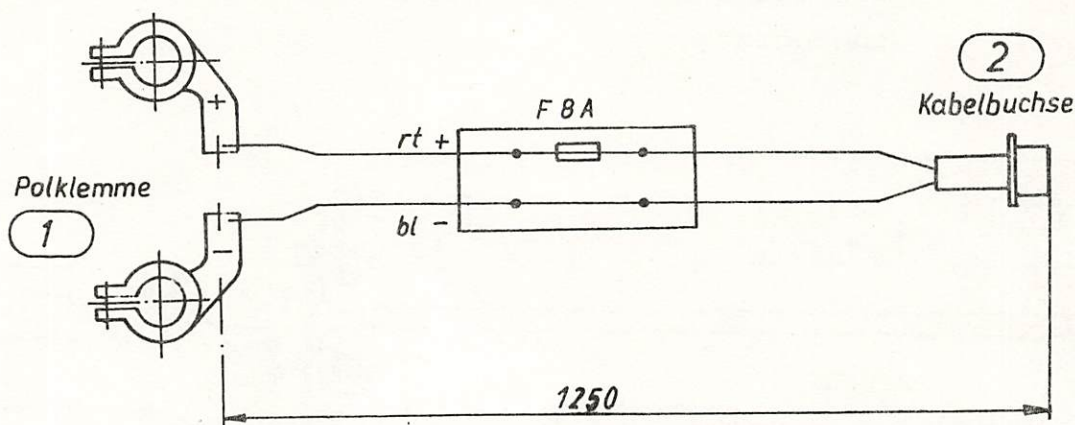

Figure 5
The connection is established with the battery connection cable 1414.006-01001 (cf. Figure 5) contained in the accessories to the battery connection plug $\text{—}|$ (26). If a longer feeder line is required, the cable is to be replaced after the fuse link (cross-section $\geq 2.5 \text{ mm}^2 \text{ Cu}$). Access to the fuse link is to be guaranteed. The battery can be earthed at one side. When the positive pole is earthed, the fuse link is to be switched over to the negative line by reconnecting the cable. In case of incorrect polarity the fuse link is destroyed. During battery operation overvoltages up to 16 V or 32 V are permitted for a short time ($t \leq 5 \text{ min.}$). Floating operation is possible up to these limits. When higher voltages are present, a protective circuit places the unit out of operation.